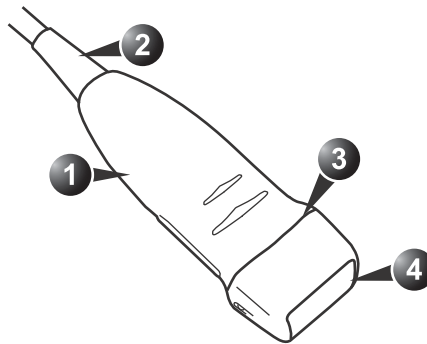

Figure 13-3. Probe parts
1. Inspect the lens, the probe housing and the cable (Figure 13-3).